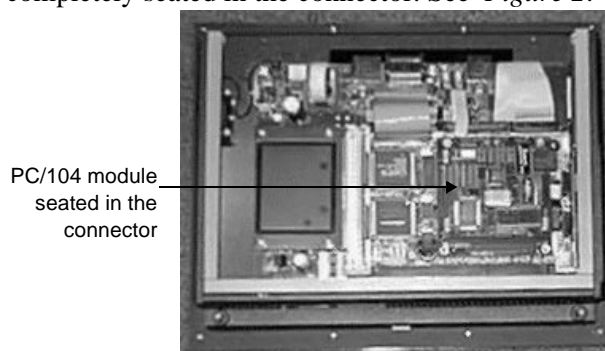

Figure 2 Seated PC/104 Module
2. Press down firmly on the PC/104 module until the module is completely seated in the connector. See *Figure 2*.